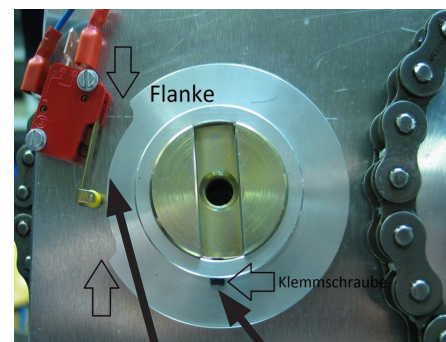

Fig. 2
3. Loosen the locking screw of the switching cam with hexagon socket of size 2.5 and turn the switching cam manually so that the flank of the switching cam is directly in front of the roller of the limit switch (see figure 2)